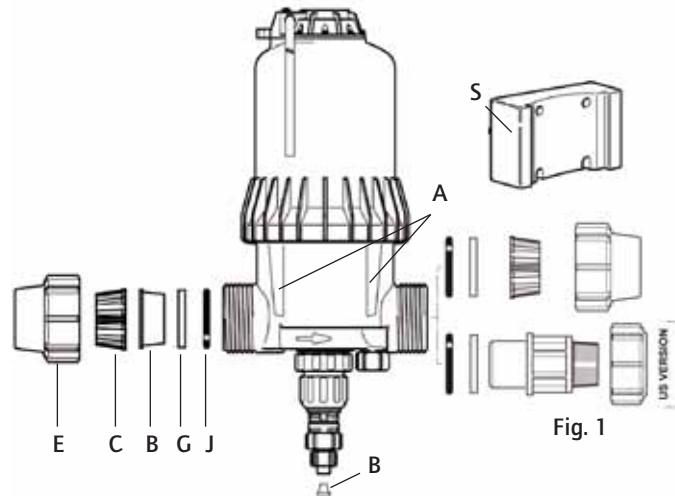

Fig. 1
- Slide dovetails on the pump body (Fig. 1-A) into the support bracket (Fig. 1-S).
- Remove the nuts (Fig. 1-E) and ferrules (Fig. 1-C) from the DOSATRON inlet and outlet.